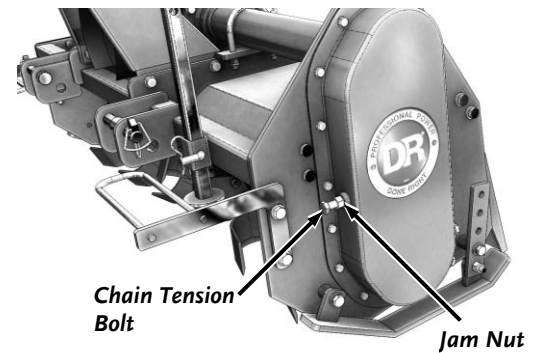

Figure 25
1. Loosen the Jam Nut on the Tension Bolt using an 18 Wrench (**Figure 25**).